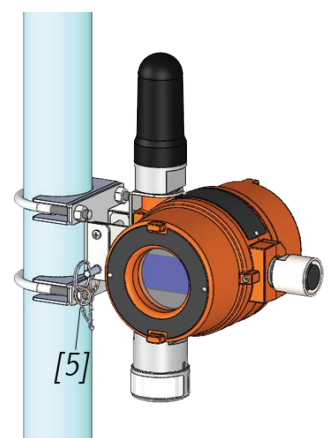

Figure 12
7. Push attached pin [5] through bottom holes to secure device to the bracket (see Figure 12).